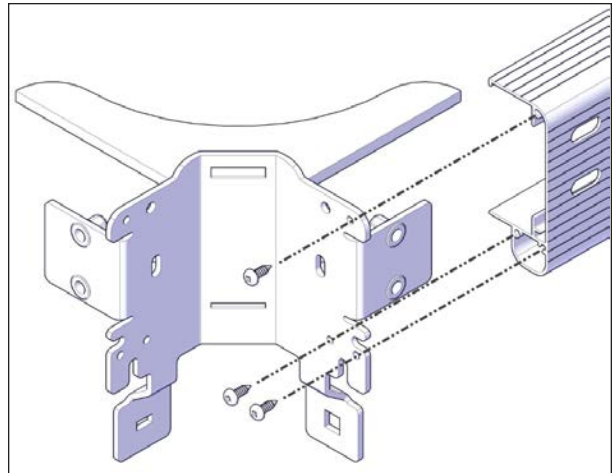

FIGURE 28: CORNER BRACKET INSTALLATION
- Insert the inner corner brackets in both ends of the remaining C- channels. Use the provided Robertson sheet metal #8 x 3/4 in. screws on the inside holes, see Figure 28.